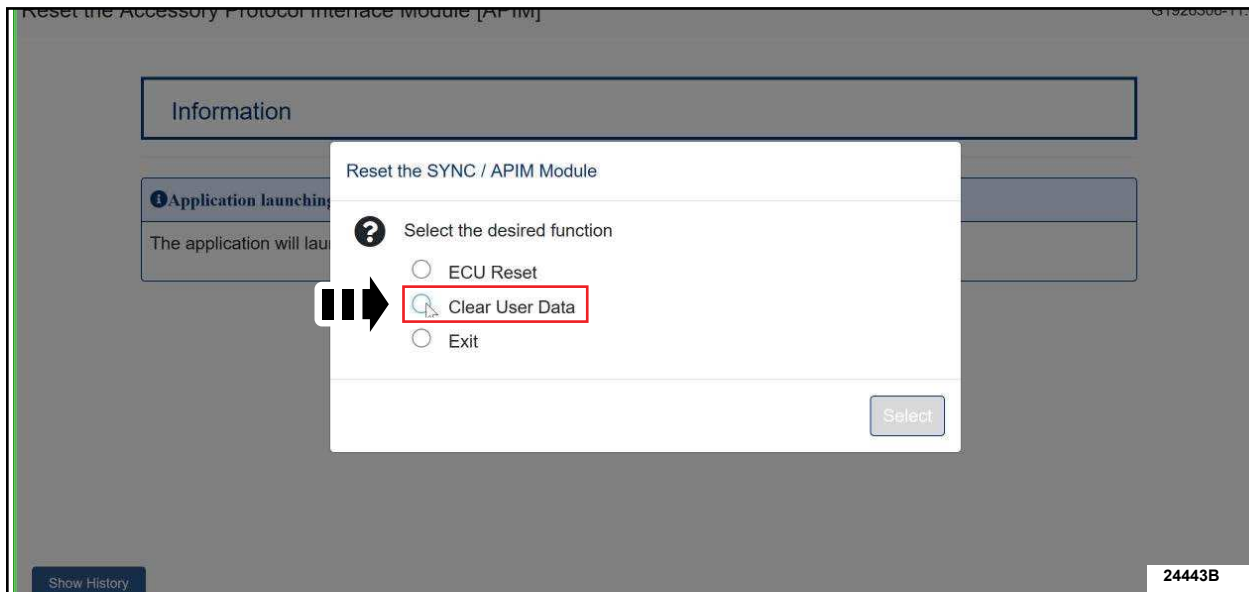

FIGURE 2
9. When prompted to select the desired function, click **Clear User Data**. See Figure 2.